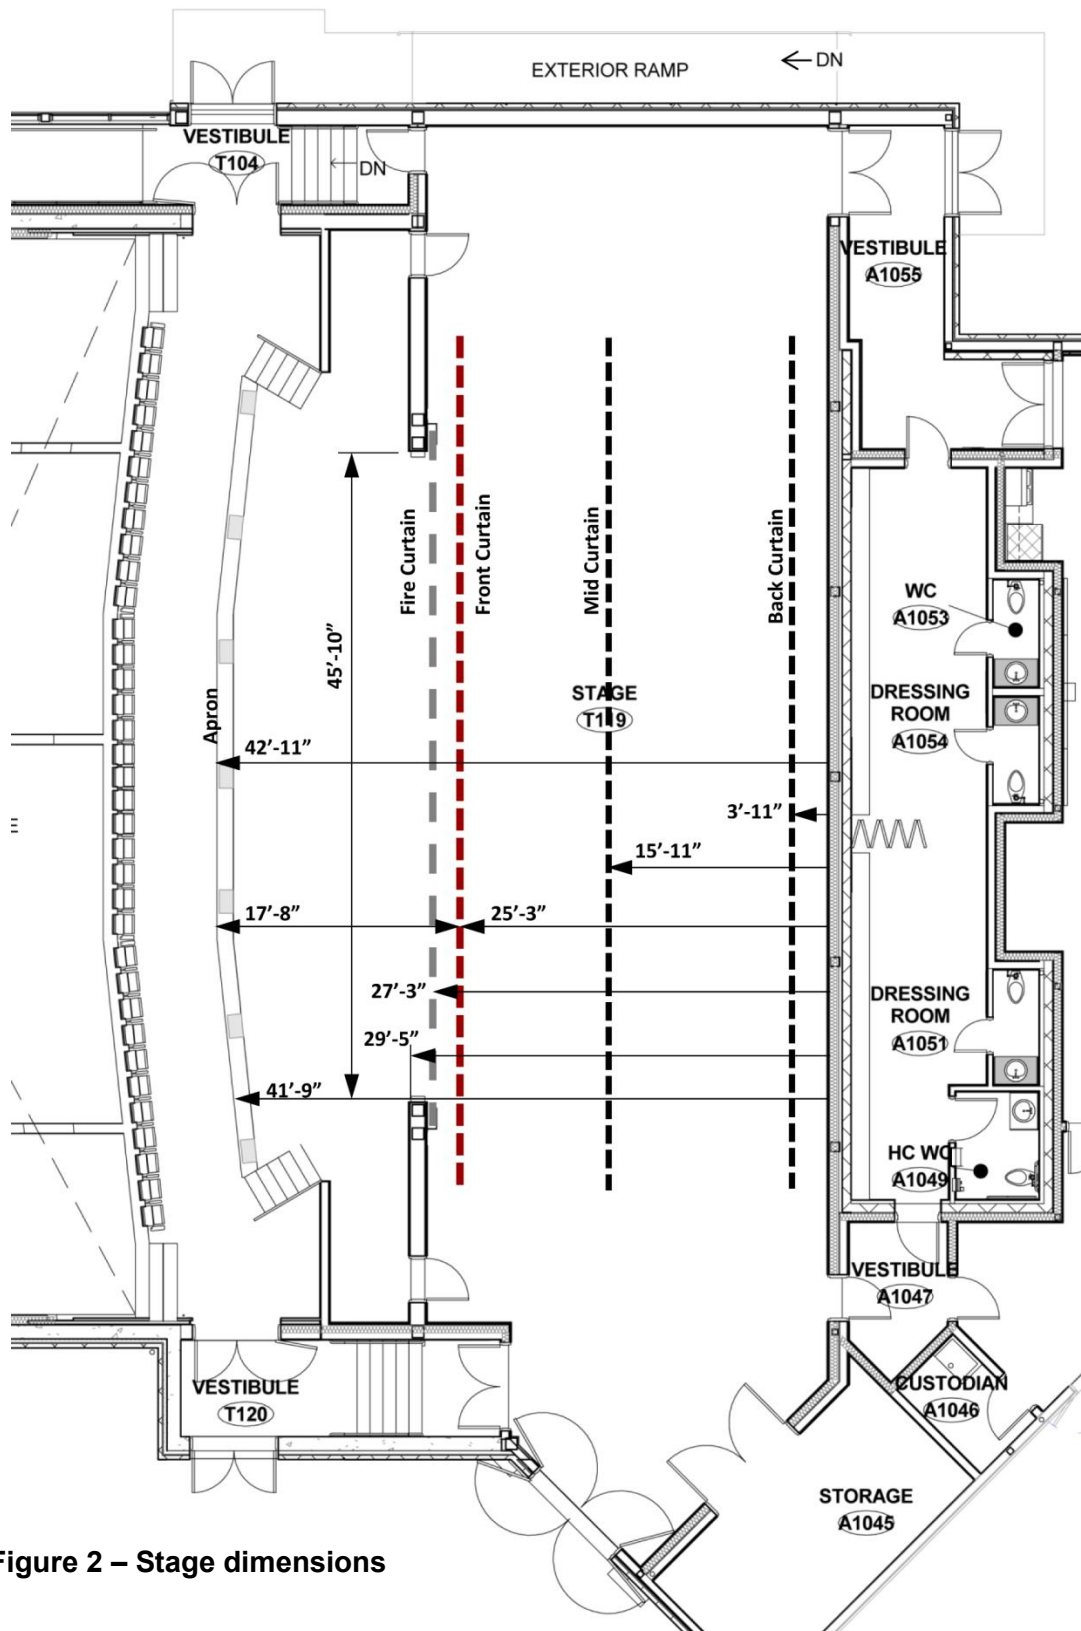

Figure 2 – Stage dimensions
2. Stage Dimensions – Figure 2 shows all curtain offsets and stage dimensions.